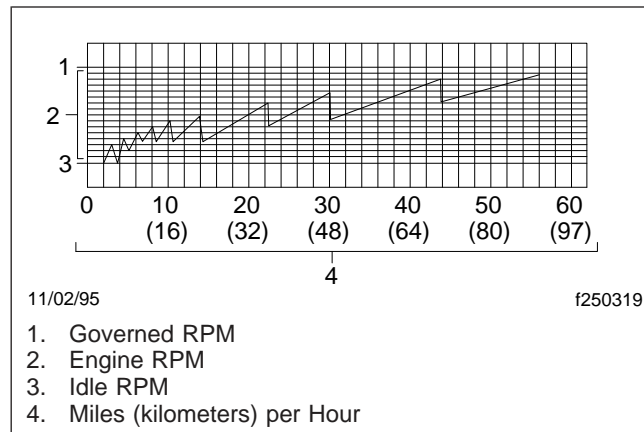

Fig. 7.8, Progressive Shift Pattern
3. It is seldom necessary to accelerate the engine to governed speed in the lower gears to get the vehicle moving, except in a high-power-demand situation such as starting on a grade. To conserve fuel, start off in low gear, and develop only the engine speed needed to get rolling. Then, increase engine speed gradually as upward gear shifting progresses. This technique will get the vehicle up to the desired cruising speed while minimizing noise emission and maximizing fuel economy. A progressive shift pattern is illustrated in Fig. 7.8.